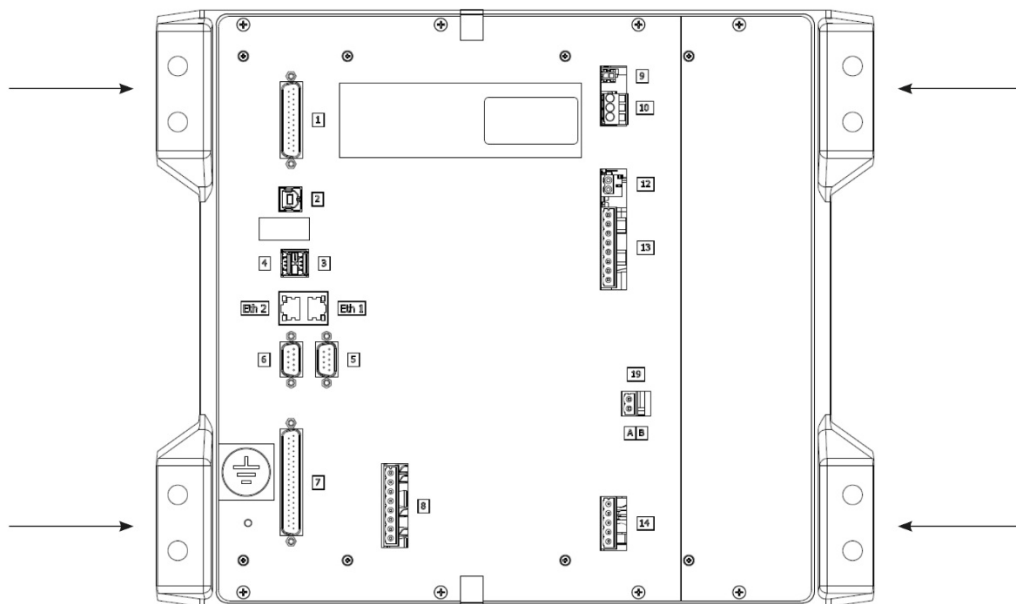

Figure 83
- 2) Unscrew four nuts fixing the RCM and remove the washers (Figure 83);